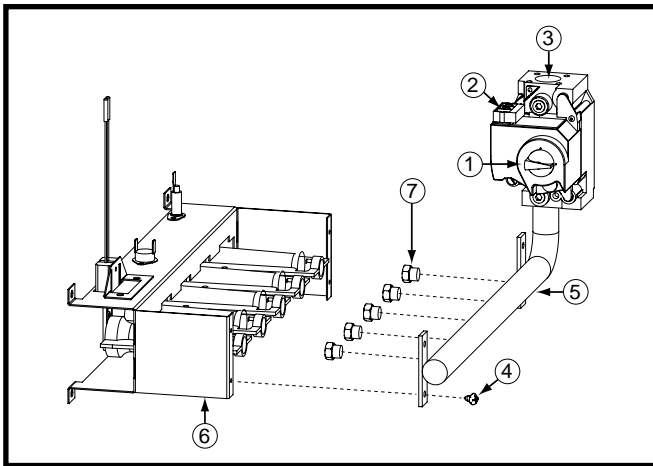

Figure 37. Burner & Manifold Assembly
4. Remove the door from the burner compartment. See Figure 37 (page 29).
5. Turn the gas valve ON/OFF knob (1) to the OFF position.